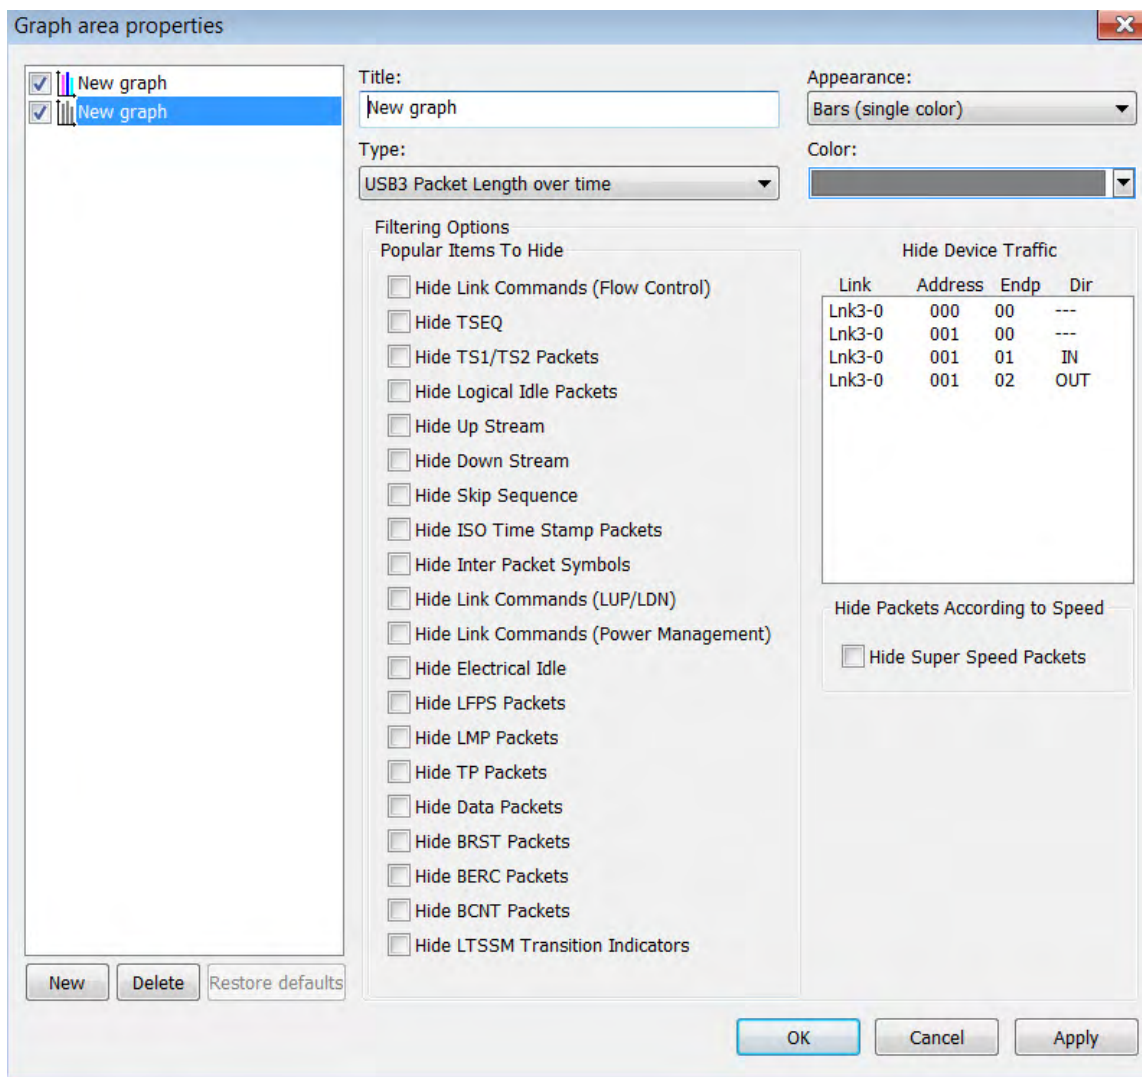

Figure 9.24: Graph Area Properties Dialog
1. In the Graph Area properties dialog box (see Figure 9.24 on page 292), select the options to display in the graph display, then click **OK**.
2. In the Graph Area properties dialog box (see Figure 9.24 on page 292), select the options to display in the graph.